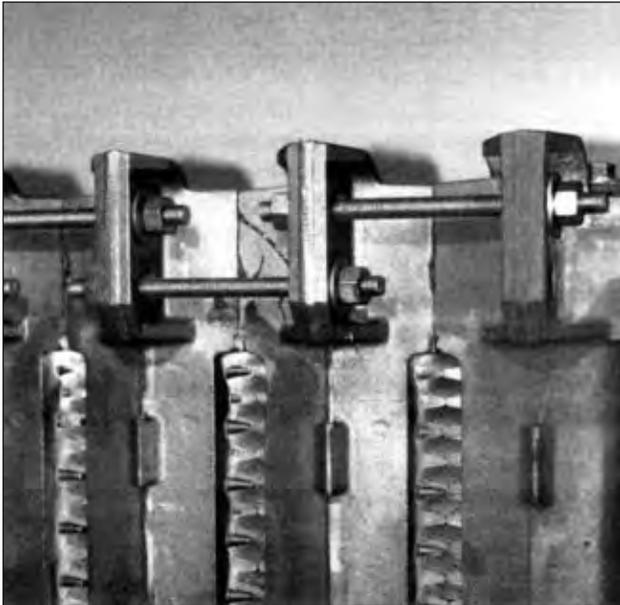

Figure 9: Draw-Up Rods (Alternating Pattern - Manual Draw-up)
- l. The large draw-up rod lugs with dual holes are cast in the four (4) corners of each casting. Starting with the upper holes, install four (4) 5/8" x 9/4" long draw-up rods along with washers and nuts (see Figure 9).